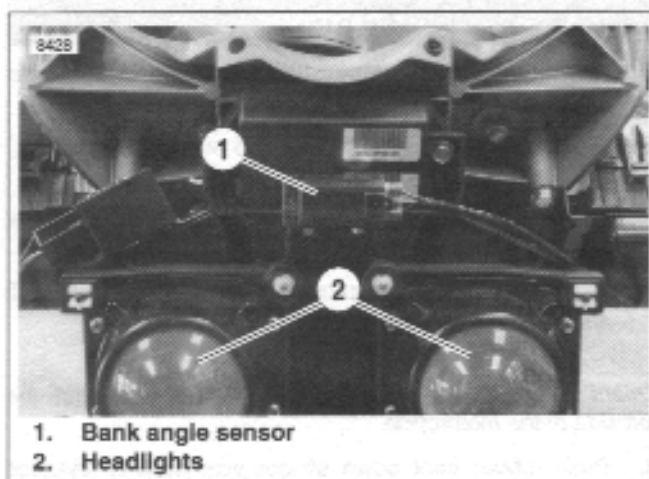

Figure 4-78. Bank Angle Sensor
3. See Figure 4-78. Unplug bank angle sensor connector [134].
5. See Figure 4-78. Install bank angle sensor connector [134].